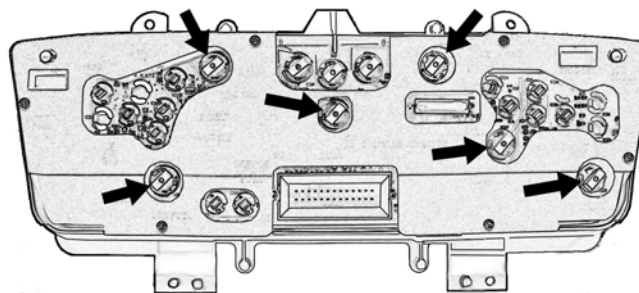

Figure 7
7. Remove the 6 illumination lamps that are marked in the figure below from the rear of circuit board by turning the lamps ¼ turn counter-clockwise. Pliers will help with the removal (See figure 7).